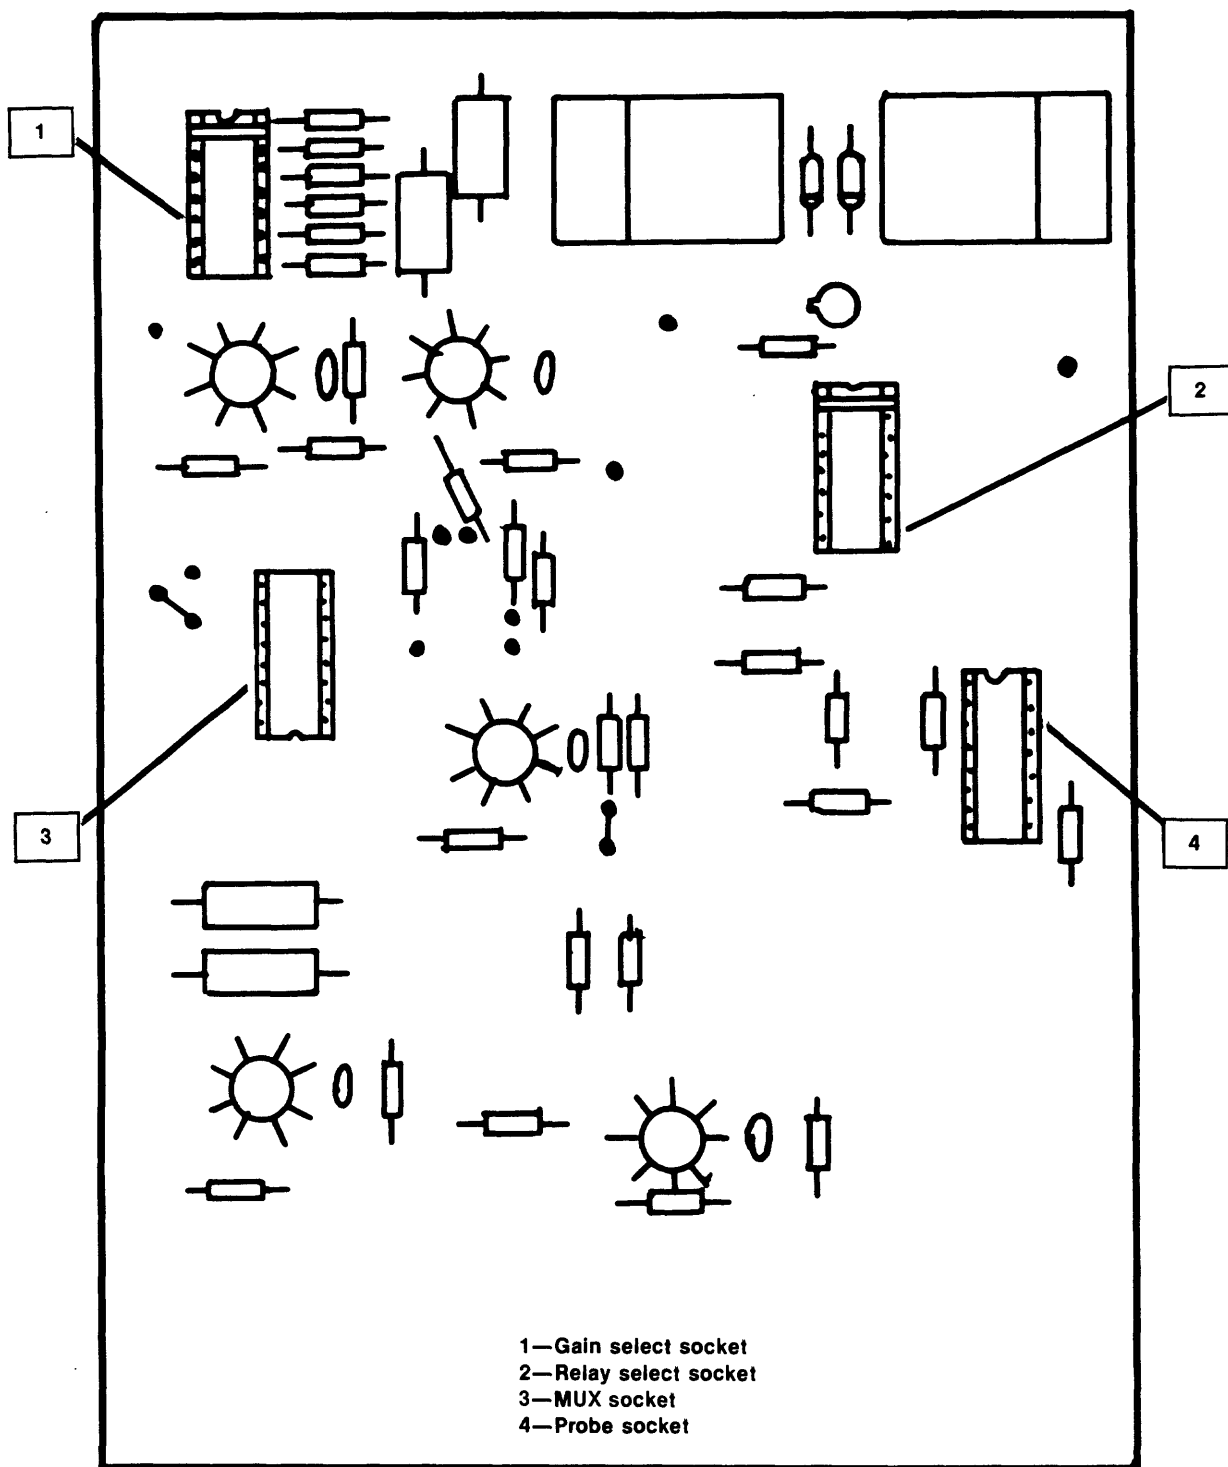

Figure 19.--Voltage signal conditioner.
A VOLTAGE SIGNAL CONDITIONER (fig. 19) has been designed by the HIF to allow the Minimonitor to accept voltage and, in some cases, current signals from other instrumentation. In addition, the voltage SIGNAL CONDITIONER has relays available to provide electrical power from the Minimonitor, or other sources, to other instrumentation. Application of this power can be controlled by the Minimonitor timing circuits.
- Voltage signal conditioner (fig. 19) and ribbon cable connector if used on Minimonitor.